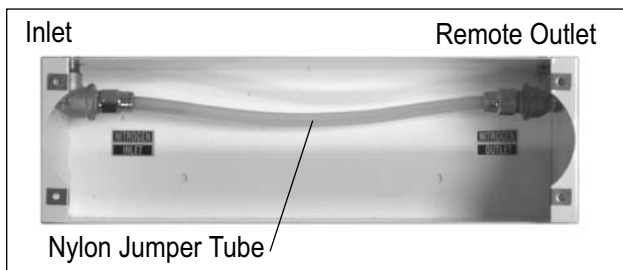

Figure 3
6. For panels with remote outlet, install nylon jumper tube between inlet and outlet connectors (Figure 3).